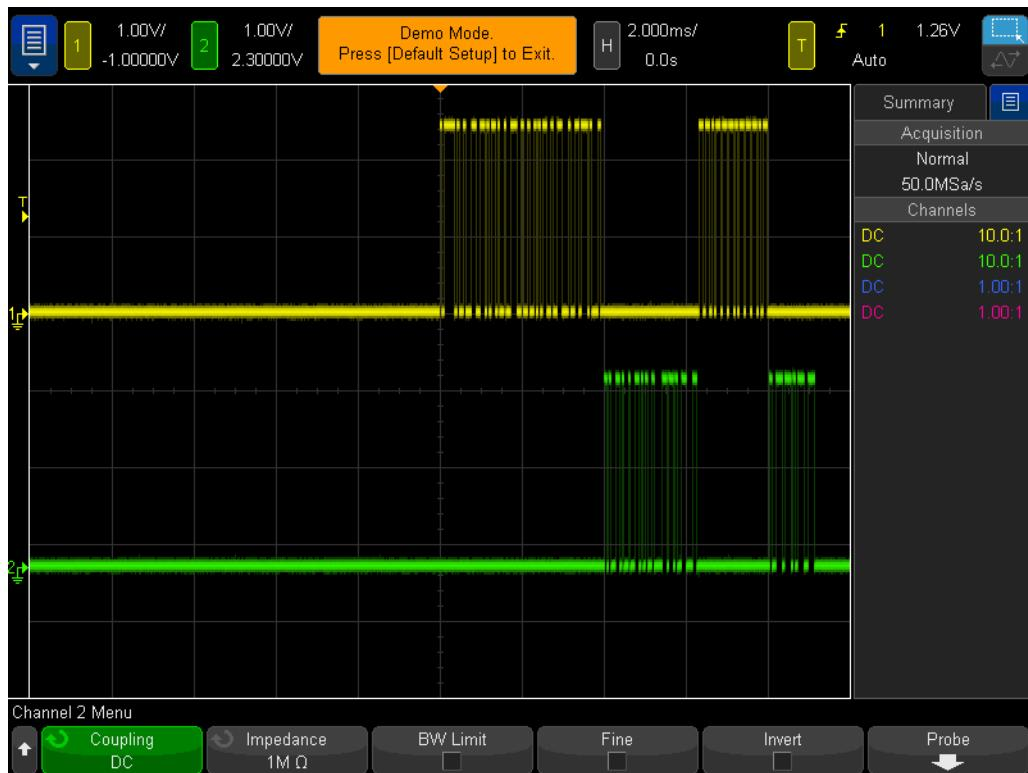

Figure 60 Capturing RS232/UART transmit and receive data signals using the scope's Edge triggering mode.
You should now see on your scope's display what appears to be an un-triggered display of two digital signals similar to Figure 60. Your scope is actually triggering on random rising edges of channel-1, which is the scope's default trigger condition. But these signals are too complex to establish a unique trigger point using simple edge triggering. The signal captured by channel-1 is an RS232 serial receive data signal (RX), and the signal captured by channel-2 is an RS232 serial transmit data signal (TX). Let's first set up the scope to intelligently decode this data stream based on the RS232/UART protocol, and then we will establish a more unique trigger point using RS232/UART triggering.